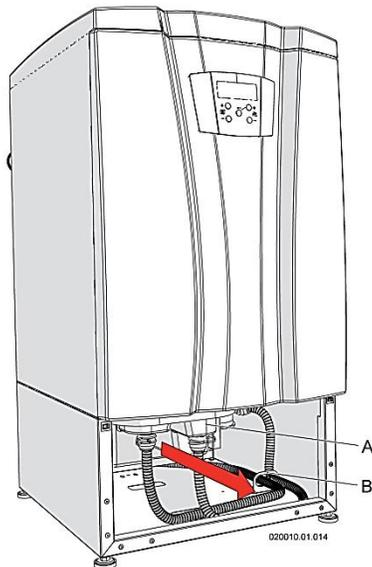

Figure 10-9: Pull Out Tank
4. Pull out the condensate collection tank assembly “A” (Figure 10-9).